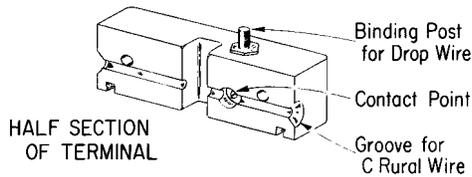

Fig. 4 – 107A1 Wire Terminal (Half section view)
3.01 The 107A1 has been replaced by the 107A2 Wire Terminal. The 107A1 Wire Terminal, shown in Figs. 4, 5 and 6, consists of a pair of molded phenolic terminal blocks, each equipped with a binding post which terminates in an insulation piercing contact point. Space is provided on the binding posts for termination of two wires. A flexible neoprene cover and strips of sealing compound are provided with the terminal. The 107A1 Wire Terminal is installed on C Rural Wire in the same manner as the 107A2.